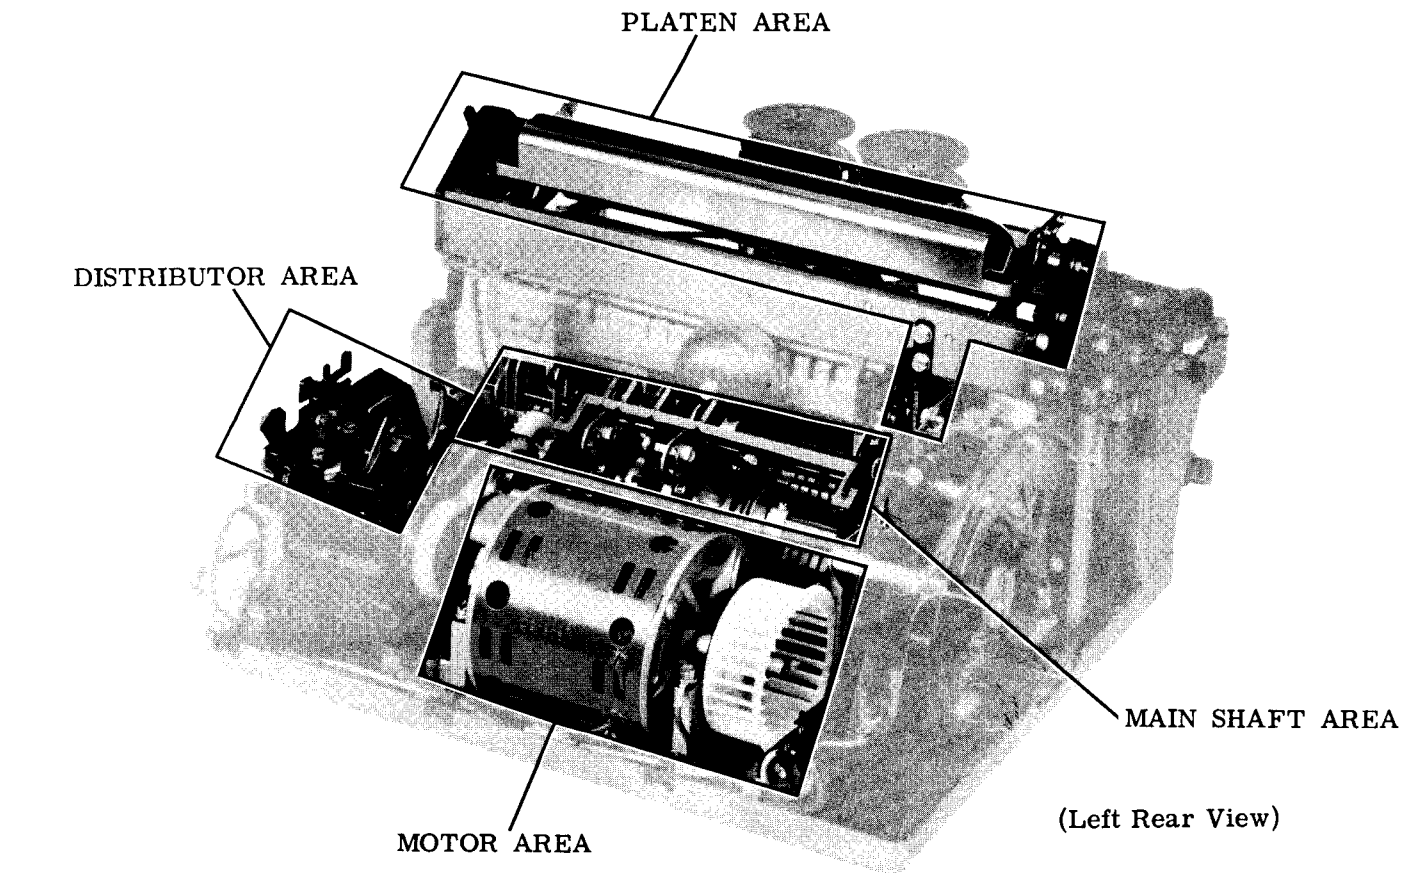

Figure 1 - Distributor, Main Shaft, Motor, and Platen Areas
1.18 To aid in physically locating the adjustments and spring tensions, the typing unit is divided into eleven areas. These areas are indicated in Figures 1 through 4 as follows: